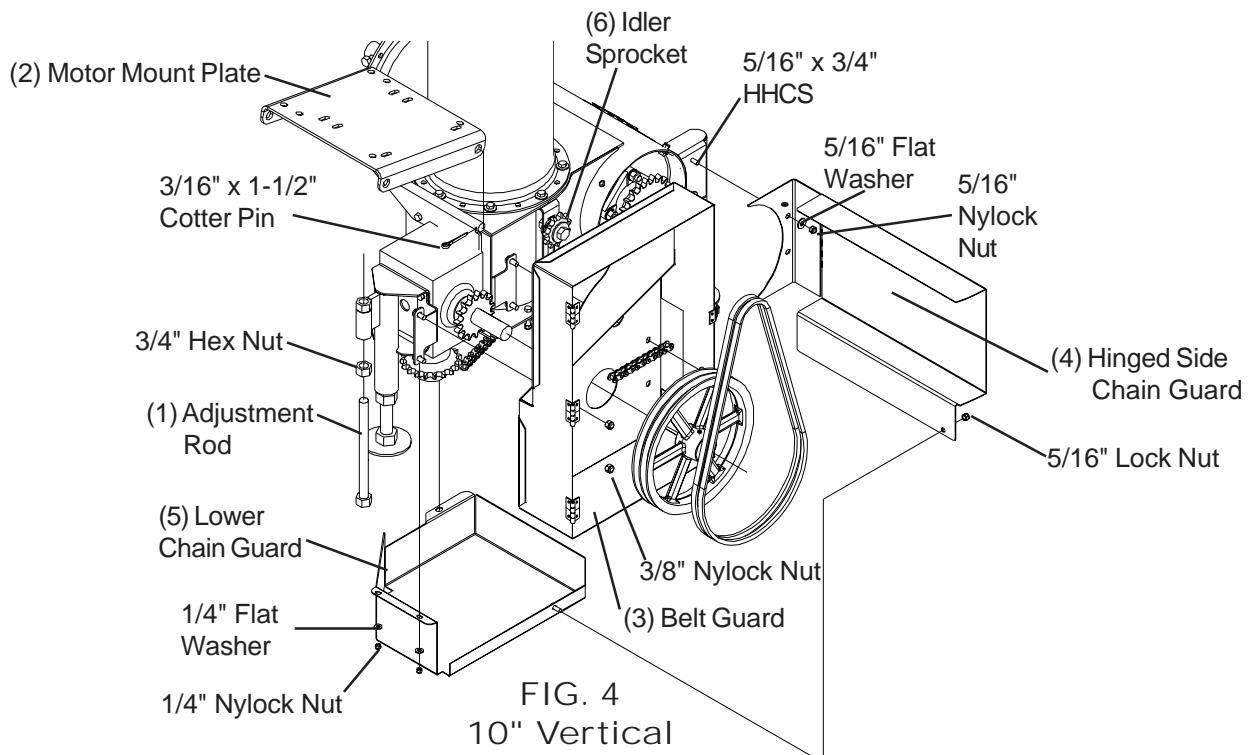

FIG. 4
**10"**: Attach hinged side chain guard (4) to vertical with two 5/16" x 3/4" long HHCS, flat washers, & nylock nuts. Hold chain guard (4) closed by attaching it to the lower chain guard (5) using a 5/16" nylock nut. (See Fig. 4)
**10"**: Bolt lower chain guard (5) to underside of vertical using one 3/8" x 1" HHCS flat washer, and 3/8" nylock nut through the flange with one hole. On the flange with two holes, use two 1/4" x 3/4" HHCS, flat washers and nylock nuts. (See Fig. 4 & 5)